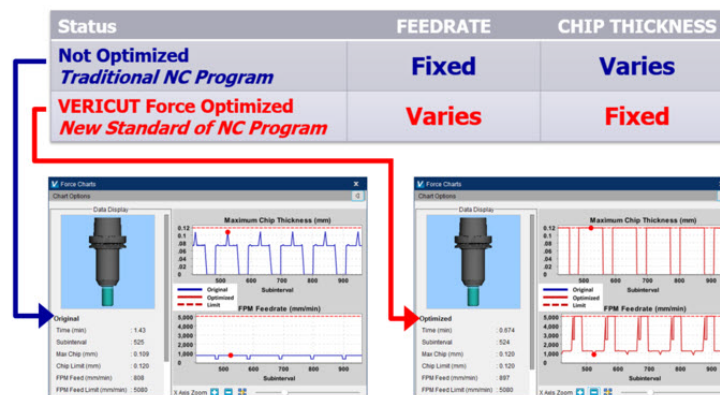

Figure 14 – Traditional NC program and results vs. Optimized NC program and results
This new solution recommends a fundamental shift in analyzing speeds and feeds. Until now the NC Program has a set spindle speed (S) and a set cutting feed rate (F). It is now possible to optimize programs for an optimal, fixed chip thickness and have a dynamic feedrate where the feedrate adjusts for cutting tool and material contact (see Figure 14).